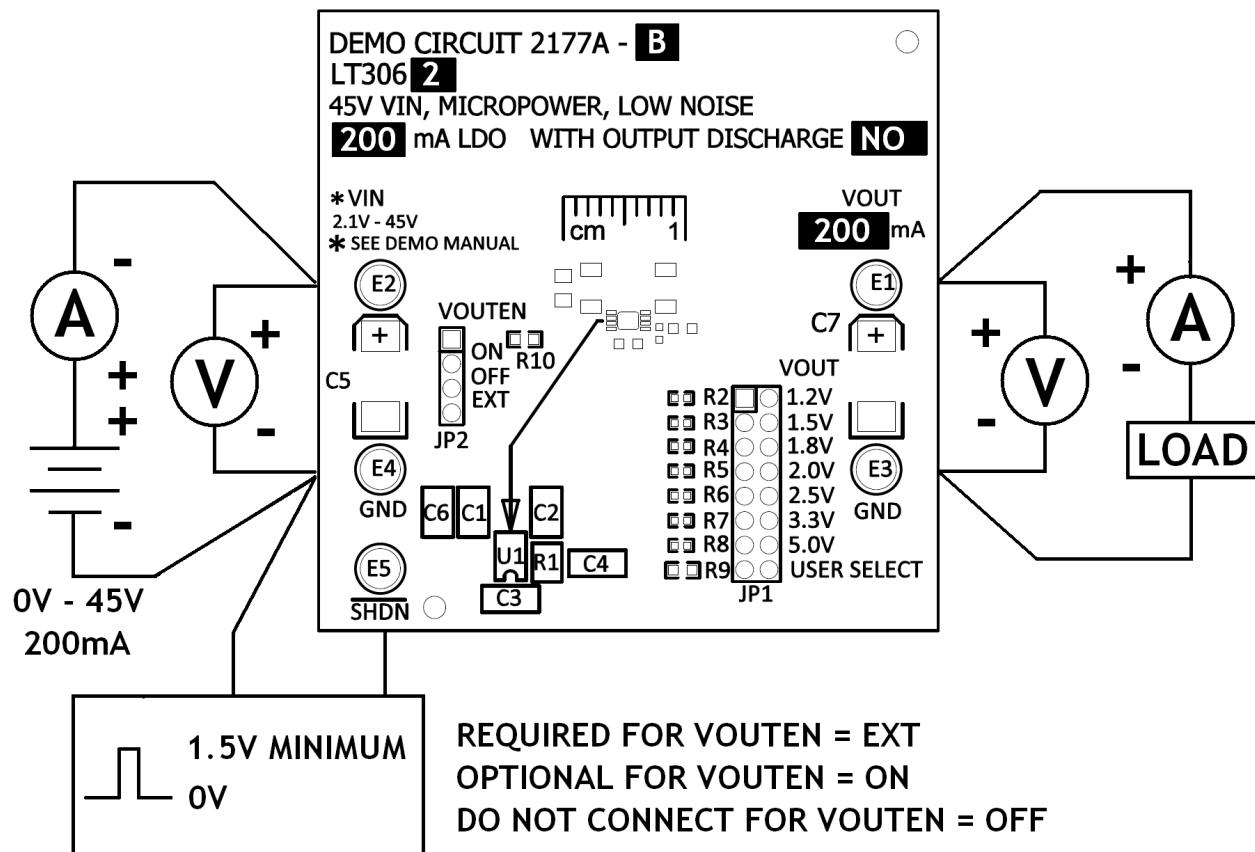

Figure 1: Proper Measurement Equipment Setup for DC2177A-B
To use DC2177A-B to evaluate the performance of the LT3062, refer to Figure 1 for the proper measurement equipment setup and follow the procedure below:
1. With the input supply and load off and turned down, make all connections according to Figure 1. Make sure the jumper to set V_{OUT} is in the proper position for the desired output voltage and the VOUTEN jumper is in the ON position.